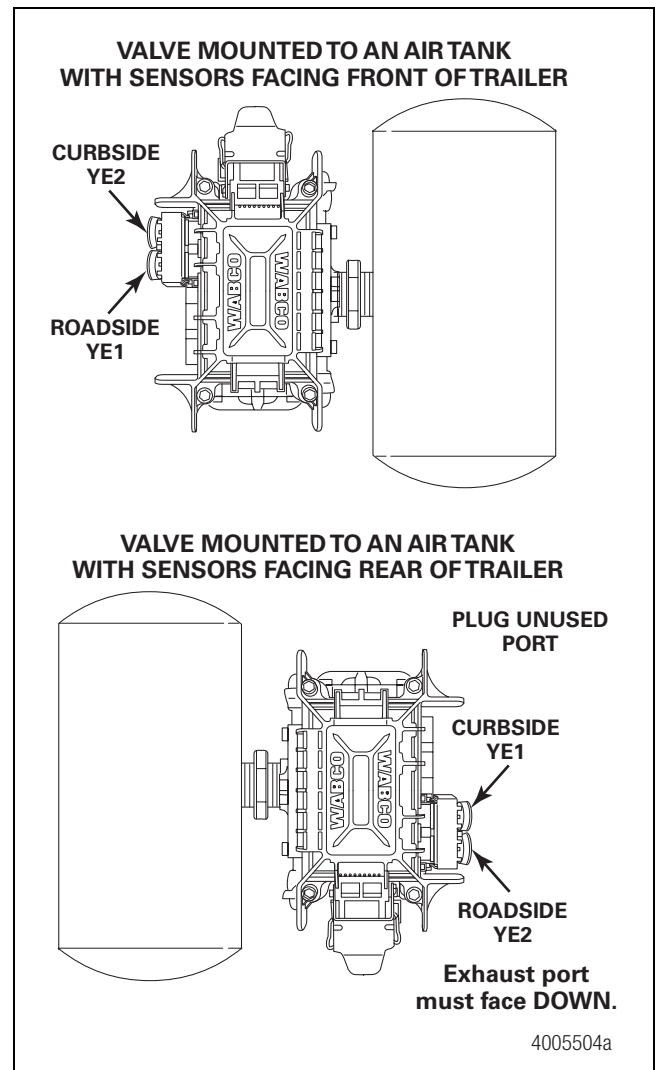
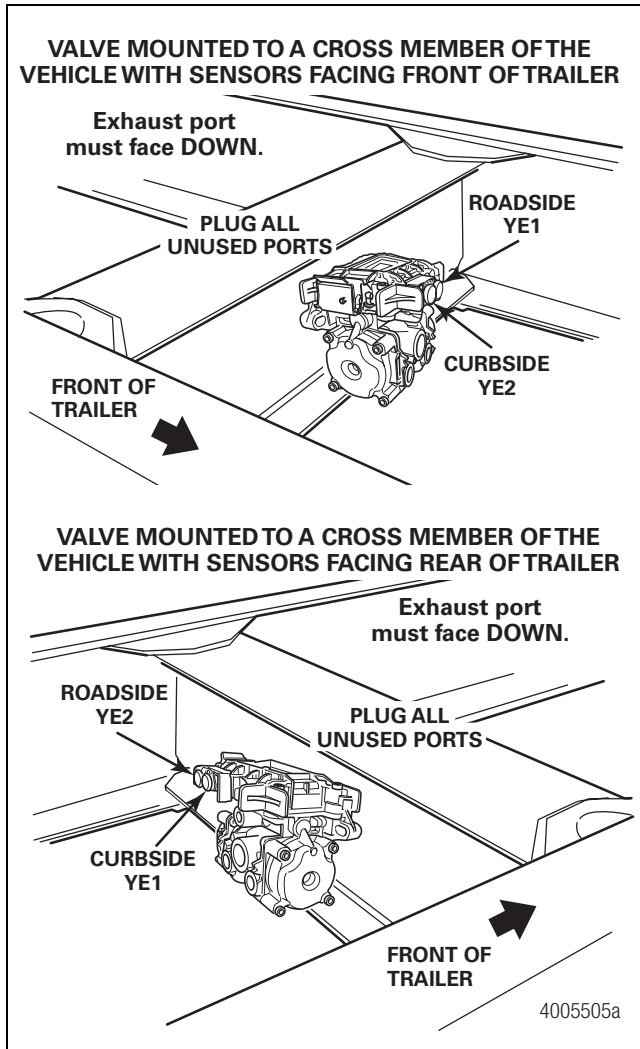
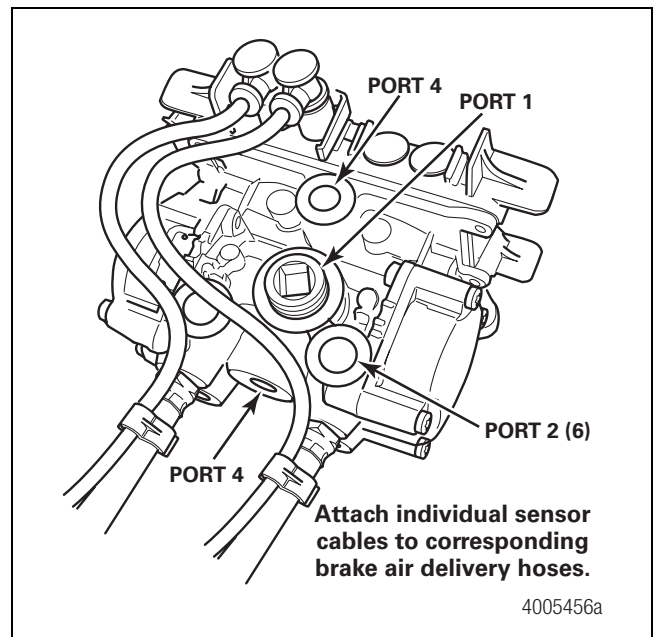

Figure 18
Figure 19
Figure 26
Refer to Figure 18. Refer to Figure 26 for port locations.
Refer to Figure 19. Refer to Figure 26 for port locations.
NOTE: Refer to Figure 26 for port locations. Refer to page 13, Attach the Sensor Extension Cables to the ECU/Valve Assembly, for sensor mounting locations.
1. If bracket mounting, connect the air supply line from the supply tank to ECU/modulator valve assembly supply Port 1. Plug the unused port. Refer to Figure 26 for port locations.
NOTE: Figure 26 illustrates a strain relief.
8. Create a strain relief to protect the sensor extension connector terminals. Without this strain relief, normal trailer jounce and vibration will cause the terminals to spread and loosen. Use a tie wrap or clip to secure the cable to the air hose as close to the fitting as possible. Figure 26.